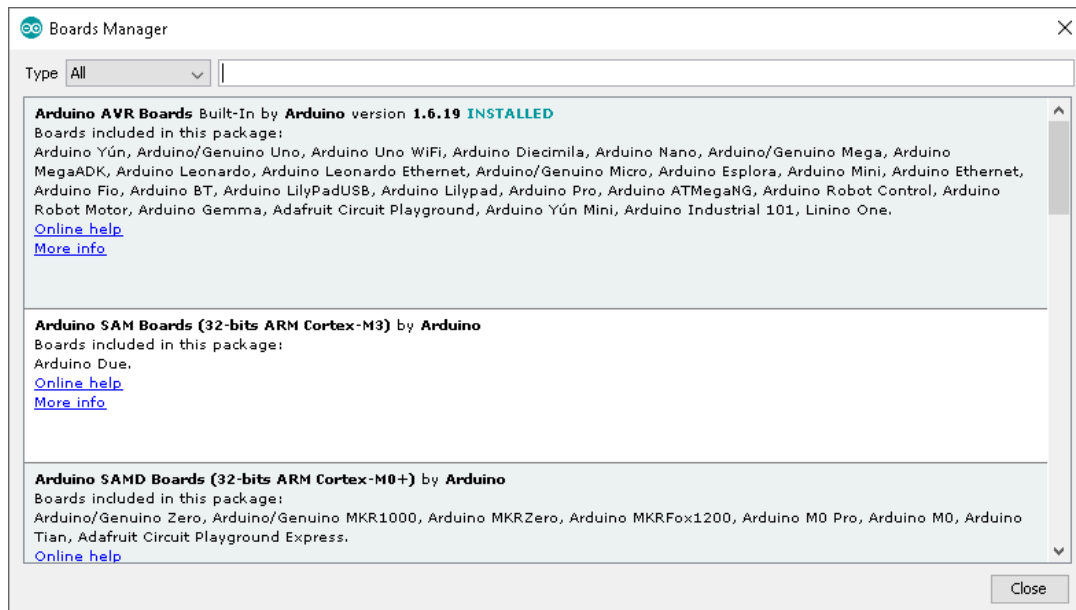

Figure 2-6 Arduino IDE, Boards Manager Dialogue
- 5) The "Boards Manager" will bring out a dialogue like the one shown in Figure 2-6. Type in "M10" in the search box to find the board support package for PulseRain M10 board, as illustrated in Figure 2-7. Click "Install" to download and install the board support package.